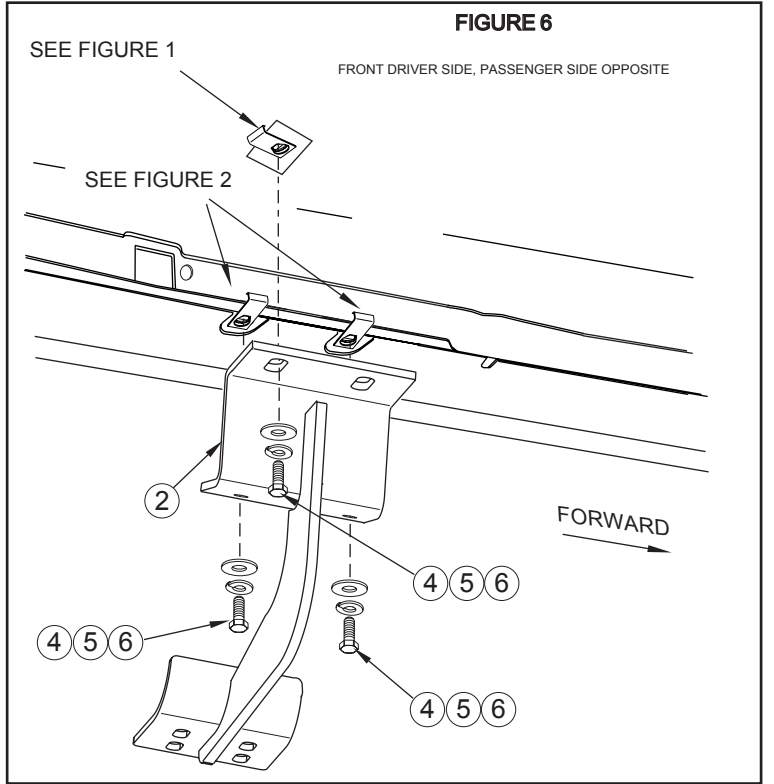

FIGURE 6
- STEP 5. Loosely attach front brackets to underside of body panel as shown. **SEE FIGURE 6.**